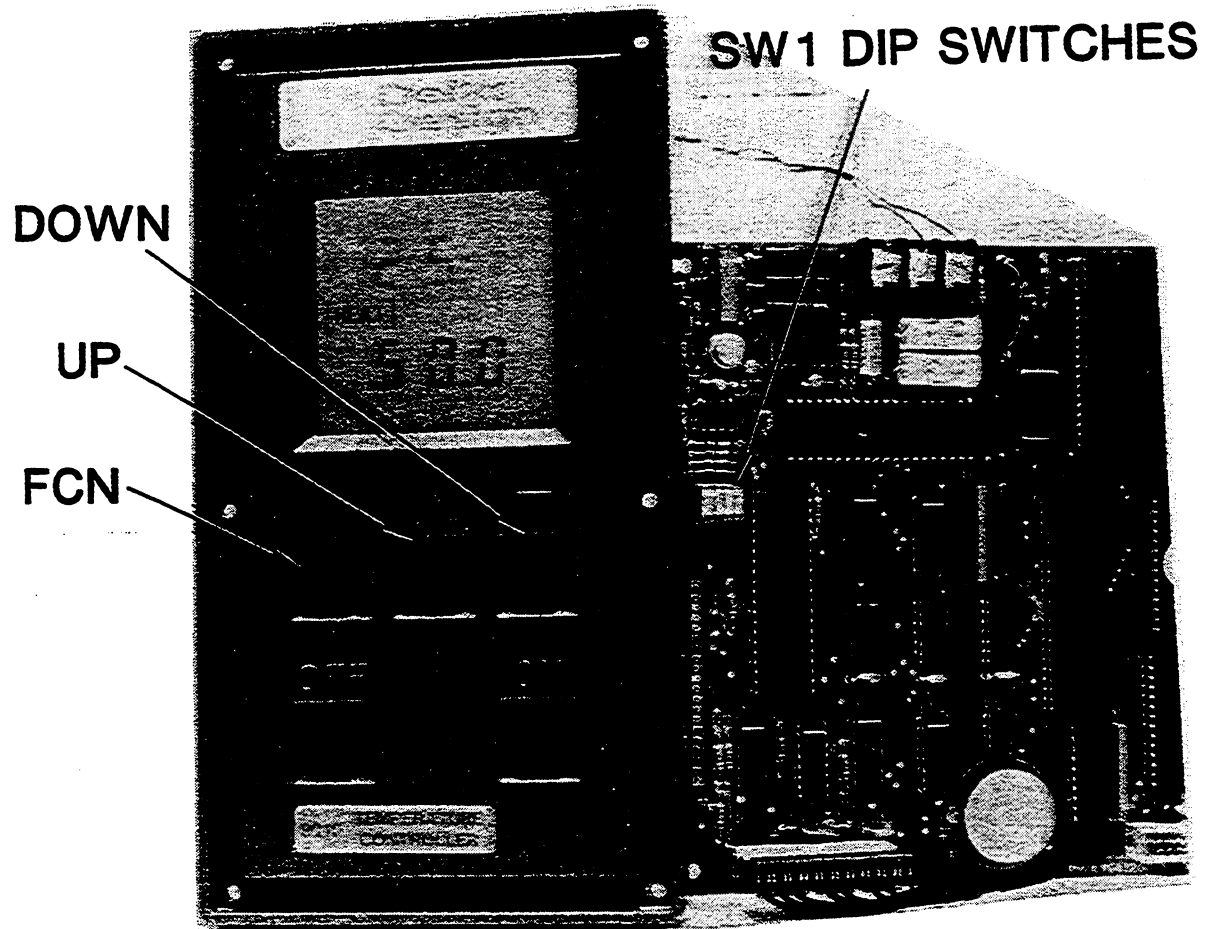

Figure 5-1. 9010 Front Panel Controls
5.2.1 FRONT PANEL OPERATION (Figure 5-1)
In addition to the FCN, UP and DOWN keys, the dip switches of SW1 in Figure 5-1 affect the operation thru the front panel. All four switches are set to OFF when a 9010 is delivered in a chamber.